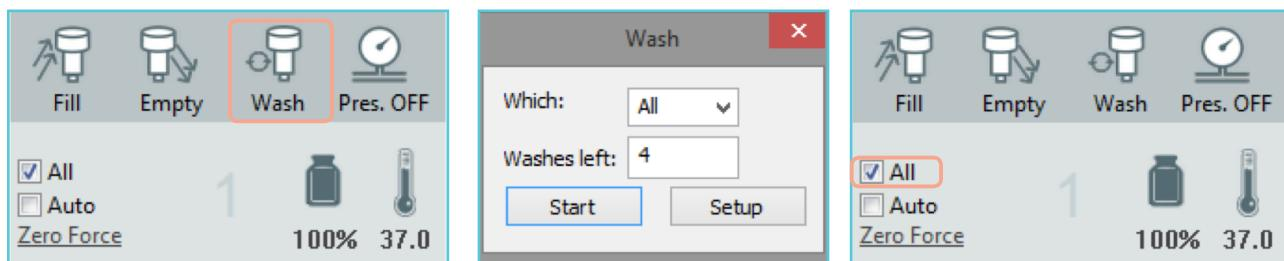

Figure 43.
- **Wash - Main menu:** from the individual Chamber Panel, allows the user to define which chamber 1,2,3,4 or All should be subjected to the wash step (Figure 43). By selecting the Setup the Washing protocol can be defined as shown in figure 42A-C.
Checking 'All' activates 'Wash' for all the 4 chambers simultaneously (figure 43).